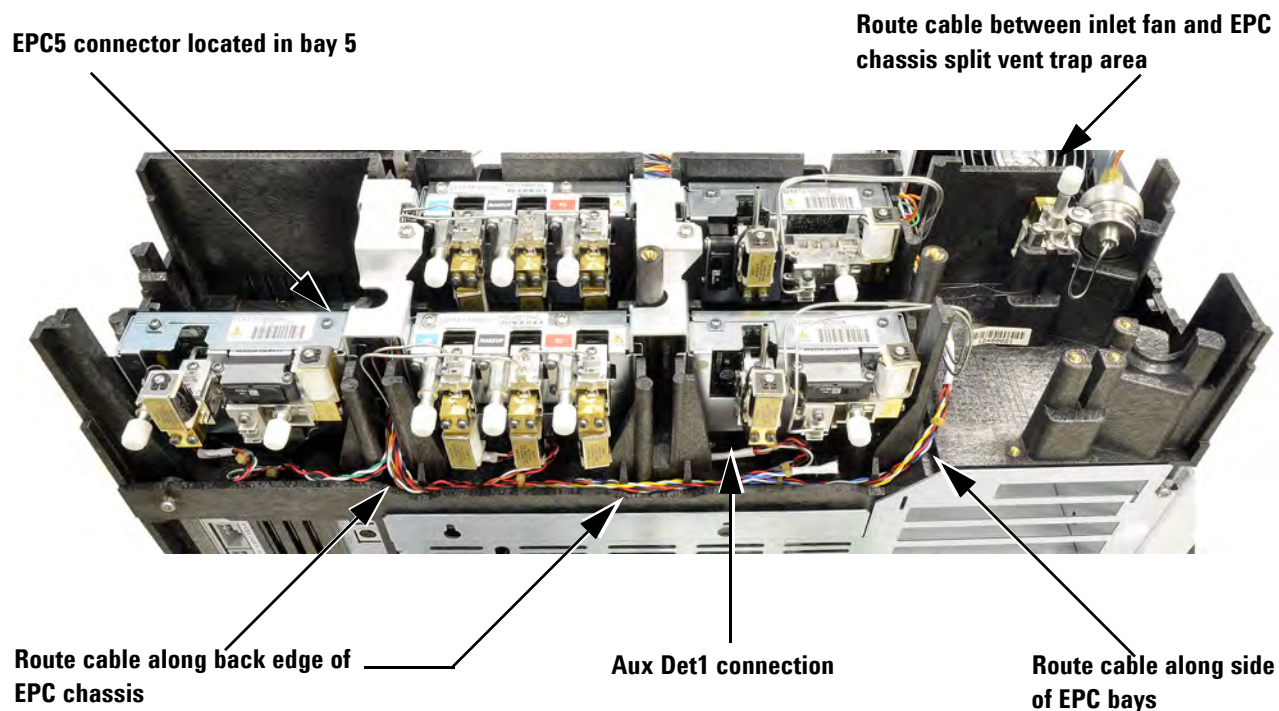
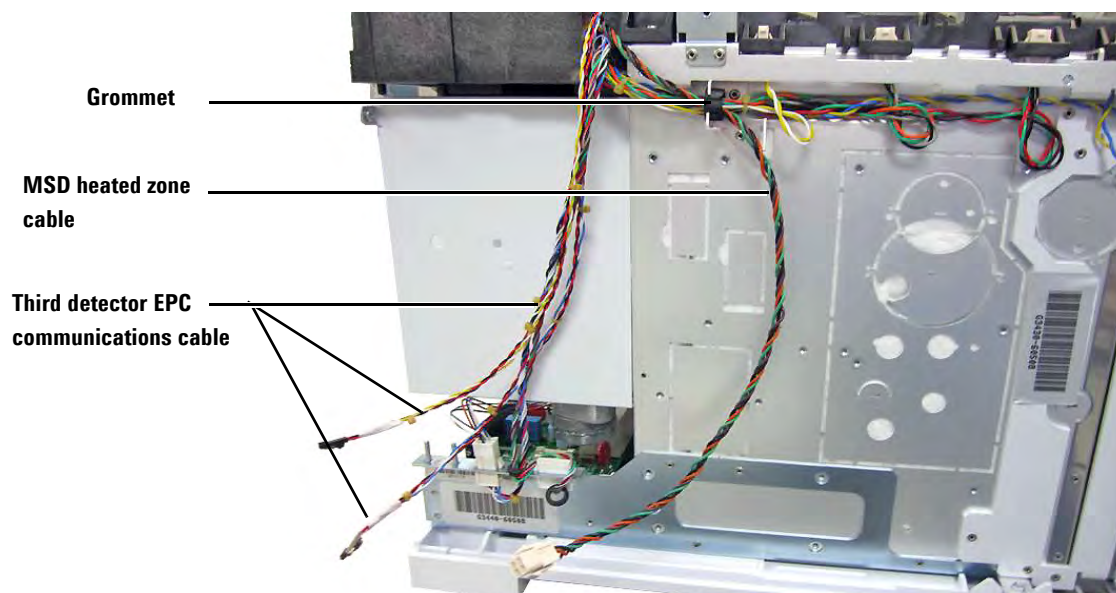

Figure 9 Third detector EPC communications cable connections and routing
Figure 10 Route the third detector EPC communications cable
- 9 Route the MSD heated zone cable behind the inlet fan and down the left side of the GC. Include it in the grommet as shown in Figure 10 on page 10.
- 10 Connect the third detector heated zone cable to the open end of the MSD heated zone cable (on the side of the GC). See Figure 10 on page 10.
- 11 Connect the **EPC5** female connector of the third detector communications cable to the matching **EPC5** connector on the main communications harness. The **EPC5** connector is typically located in EPC bay 5. See Figure 9 on page 9. You may need to lift any PCM or Aux EPC module to access **EPC5** on the main harness.
As an example, shown in Figure 9, is a TCD EPC communications cable connection and routing.
- 13 Route the third detector EPC communications cable along the outside edge of the EPC carrier, back and through the slot near the inlet fan, then behind the inlet fan and down the left side of the GC. See Figure 9 and Figure 10.